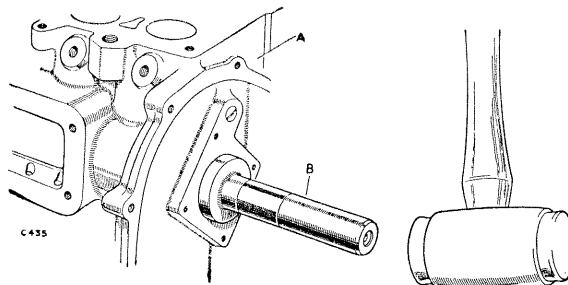

Fig. A-64—Outer camshaft bearing removal
2. Drift the front camshaft bearing into the foremost tappet chamber, using tool, Part No. 274388, then withdraw the bearing from the chamber aperture. Fig. A-64.